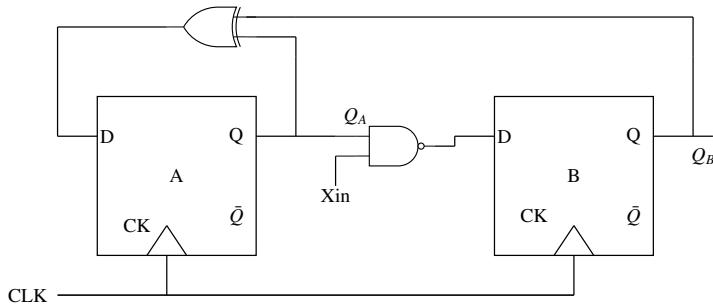

Fig. 6.10
5. A finite state machine (FSM) is implemented using the D flip-flops A and B , and logic gates, as shown in Fig. 6.10 below. The four possible states of the FSM are $Q_A Q_B = 00, 01, 10$ and 11 . Assume that X_{IN} is held at a constant logic level throughout the operation of the FSM. When the FSM is initialized to the state $Q_A Q_B = 00$ and clocked, after a few clock cycles, it starts cycling through (GATE EC 2017)